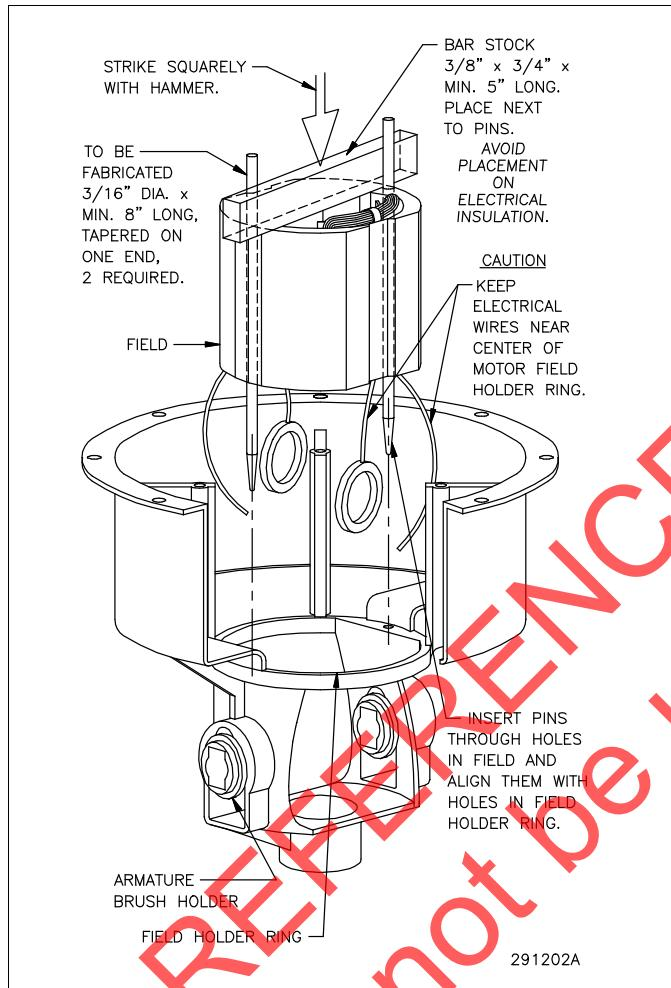

Figure 5-3. Model 2 Field Replacement
- (h) Fabricate two 8" (203mm) guide pins from 3/16" (5mm) metal rod. Taper these pins as indicated in figure 5-3.
- (i) Insert the tapered end of the pins into the threaded holes in the field holder ring as indicated in figure 5-3.
- (j) Set the new field on the motor housing with the guide pins passing through the two mounting holes in the body of the field as shown in figure 5-3. Be sure that the four wires are in the position shown in figure 5-3.
- (k) Set a length of 3/8" (9.5mm) steel bar stock approximately 5" (127mm) long, or similar object, on the field as illustrated in figure 5-3. Drive the field into the motor housing by firmly and squarely tapping the bar with a hammer. See figure 5-3. Use caution to avoid cutting or otherwise damaging the wires that are connected to the field.